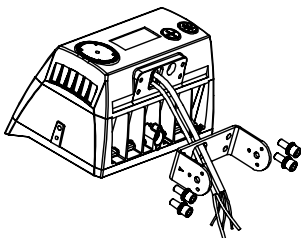

FIGURE 3
1. Put the input wire of the light through the bracket (FIG 3)